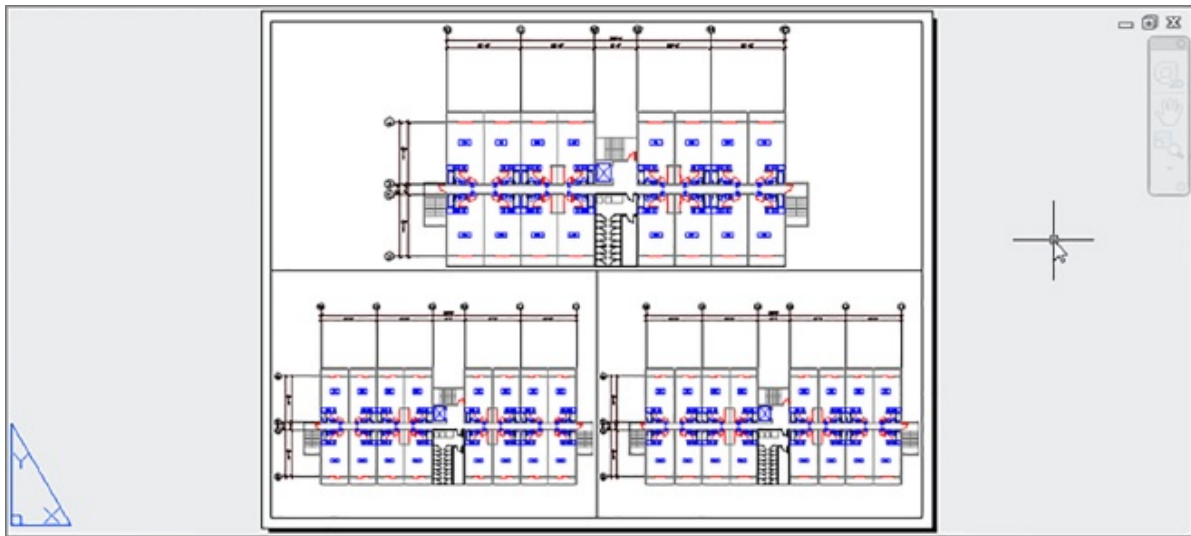

FIGURE 15.7 The newly created viewports
7. Press \leftarrow to accept the default Fit option. The Fit option fits the viewport layout to the maximum area allowed in your paper space view. Three rectangles appear in the formation, as shown in Figure 15.7. Each of these is a viewport to your model space. The viewport at the top fills the whole width of the drawing area; the bottom half of the screen is divided into two viewports.